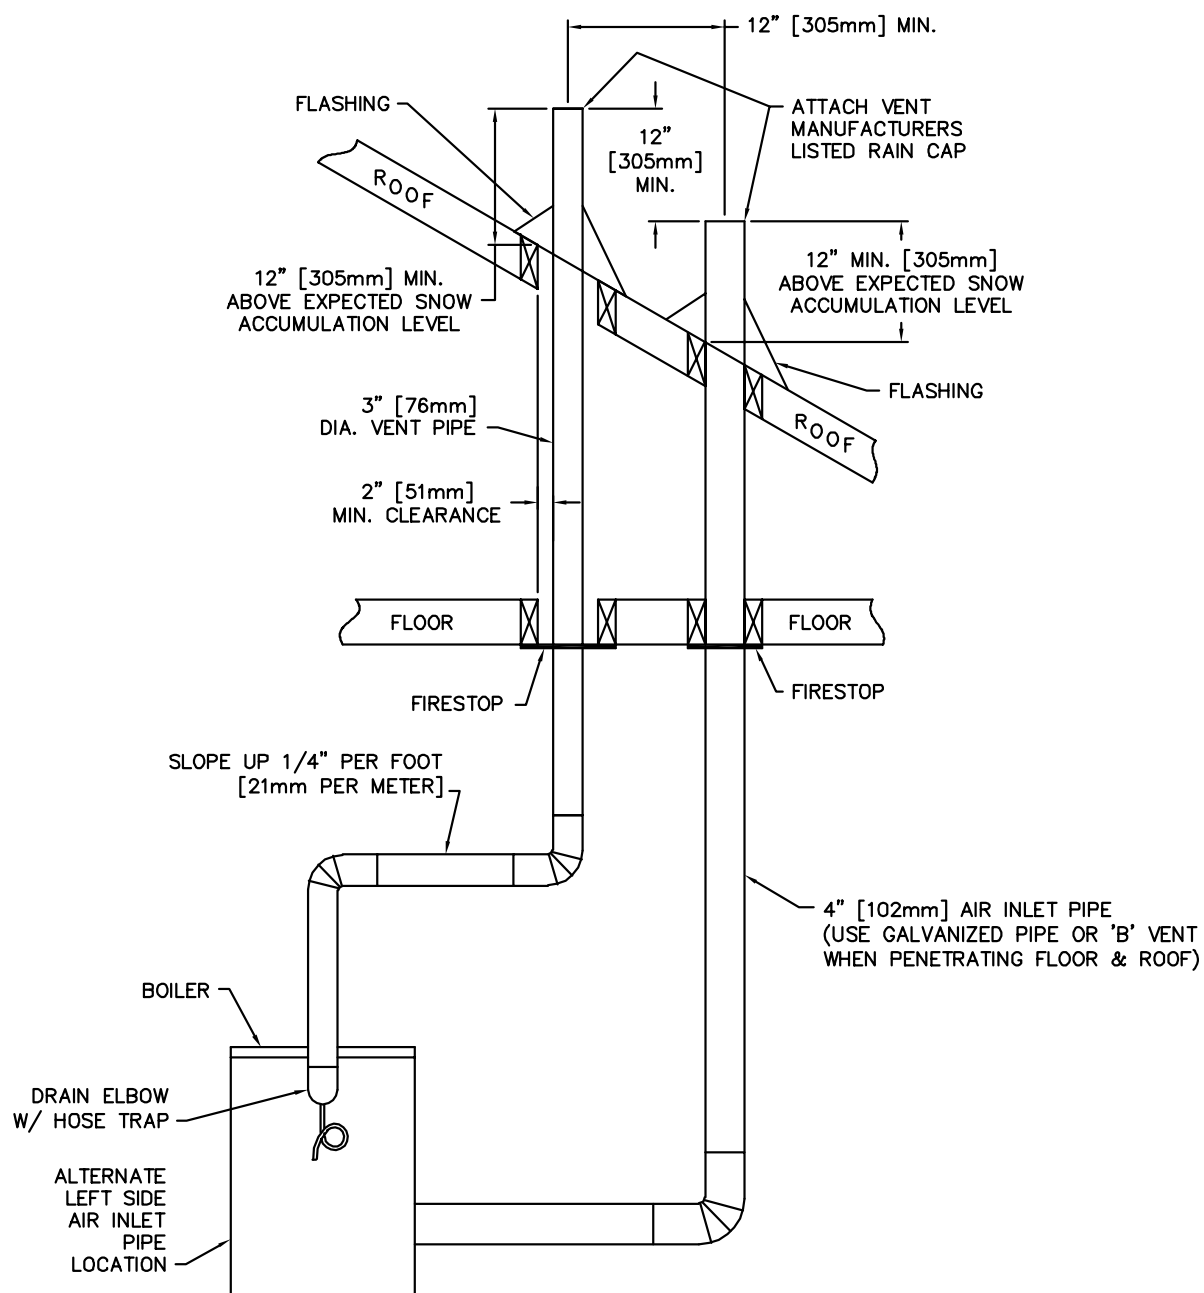

Figure 4.3: Vertical Venting System
- Vent pipe and air inlet pipe must terminate a minimum of 12" (305 mm) above expected snow accumulation level. Vent pipe must be a minimum 12" (305 mm) above and 12" (305 mm) horizontally from air inlet pipe. See Figure 4.3.